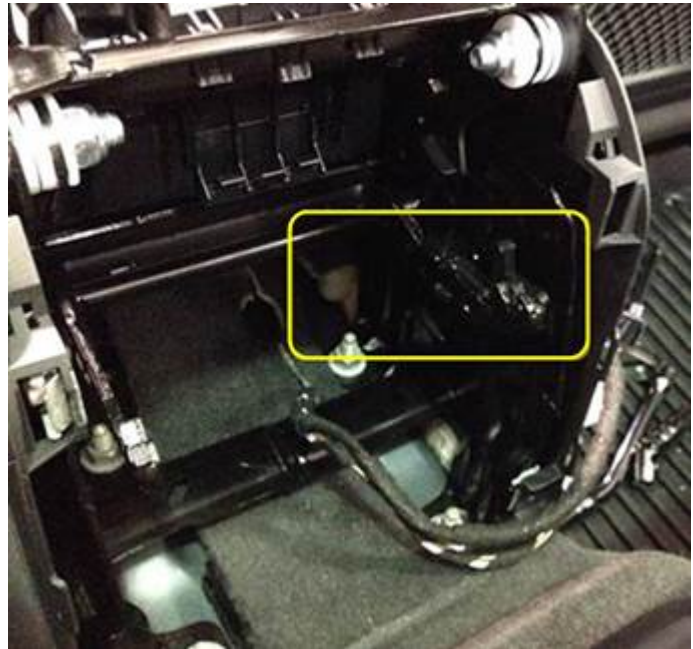

Figure 2. Rear cover of center console removed to expose guide plate (outlined).
1. Remove rear cover from center console to expose guide plate (Figure 2) according to the instructions in the Repair Manual.